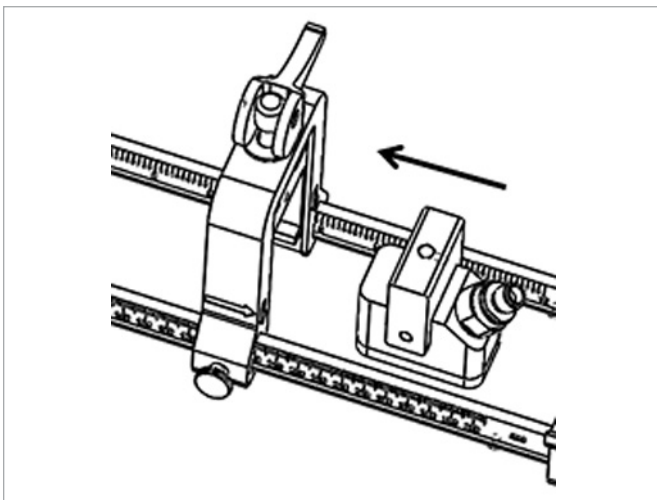

Figure 21: Inserting the transducer
- Slide a transducer, which is already locked into its transducer holder, into one of the clamp-on fixture's clamp holders until the plunger from the top of the transducer holder snaps into its position on the bottom of the clamp holder (see *Figure 21* below).